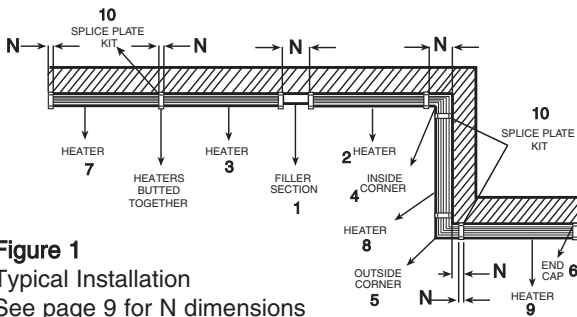

Figure 1
Check the heater section dimensions and the additional wall length required for telescoping accessories (Figure 1) before starting wall-to-wall type installation. Be certain all heaters and accessories needed are at hand and are of correct finish.
4. If required by plan, install filler section (1, Figure 1) to either heater (2) or (3) by means of four #6 screws supplied with filler section. (Refer to Figure 5.) Discard filler section end cap in this application.
Note: Predrilled 1/4" diameter mounting holes are provided in each junction box. These holes may be used only when no slip-in accessory is to be installed in that end of the heater (such as when heater(3 and 7) are butted together as shown in Figure 1). Additional mounting holes will have to be drilled in the housing to support the weight of long-length heaters (6' and longer). Do not drill any additional holes in junction boxes.
10. Mount the heater (2, Figure 1) on the wall using screws, bolts or anchors (by installer) to suit the wall construction.
11. Telescope the heater housing (3) over the filler section (1) by the desired amount and mount the housing to the wall.
12. Telescope the heater housing (8) over the corner section (4) by the desired amount and mount the housing to the wall.